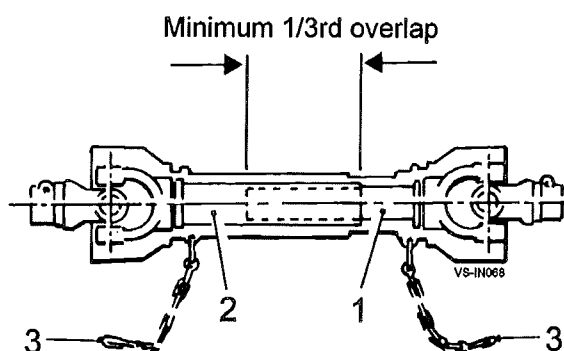

Fig 3
1. Separate the male shaft (item 1, fig 3) and female shaft (item 2, fig 3) and fit them to the tractor and harvester respectively.
7. Finally, attach the safety chains (item 3, fig 3) to secure anchoring points on the tractor and machine ensuring that the chains will not over-tighten when the machine is turning.